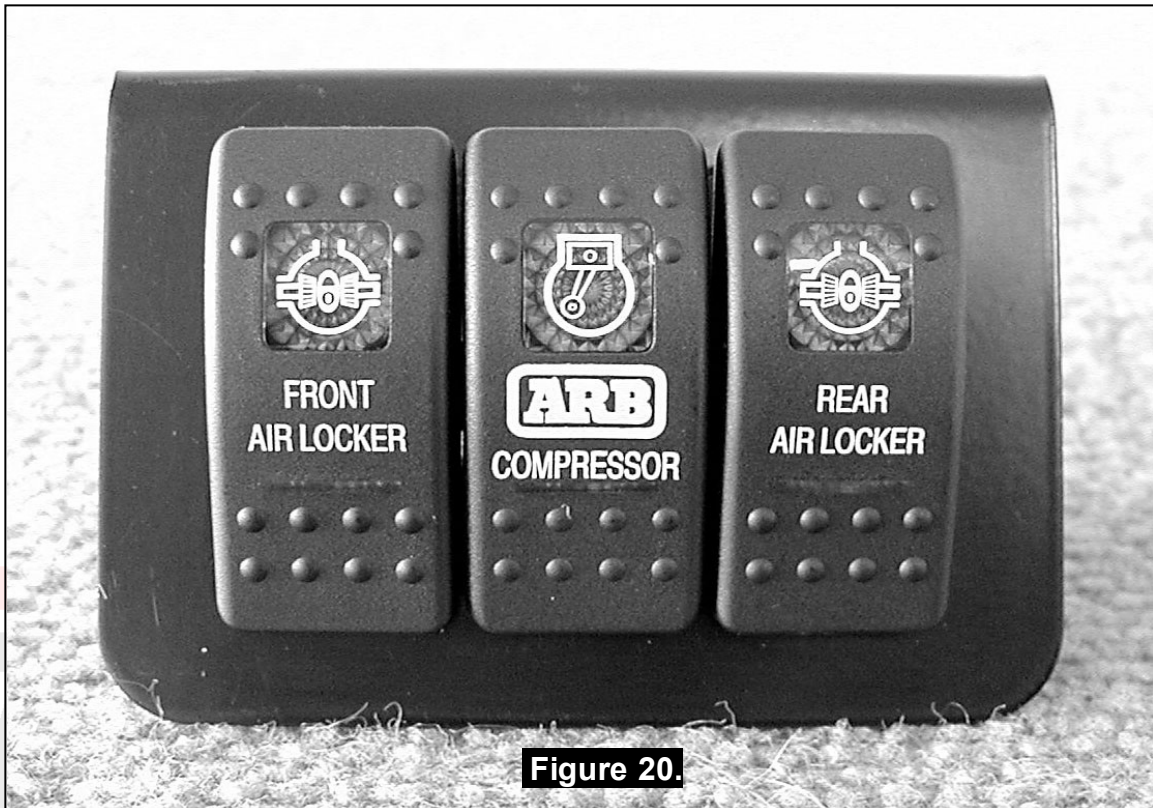

Figure 20.
**NOTE :** If no adequate position can be found on existing dashboard panels, a surface mounted bracket (Fig. 20.) may be purchased from your ARB *Air Locker* distributor to suit 1, 2, or 3 switches.